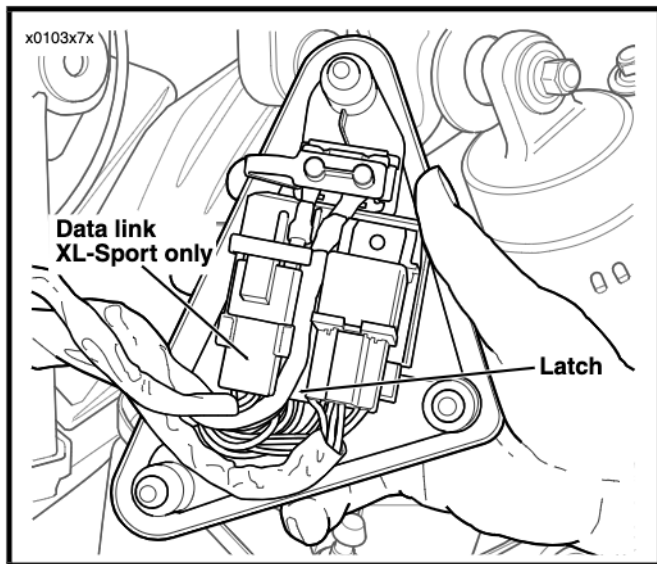

Figure 52. XL Side cover (1200S shown)
2. See Figure 52 and 53. Gently pull left side cover from frame (no tools required). Lift latch on fuse block holder to remove fuse block.